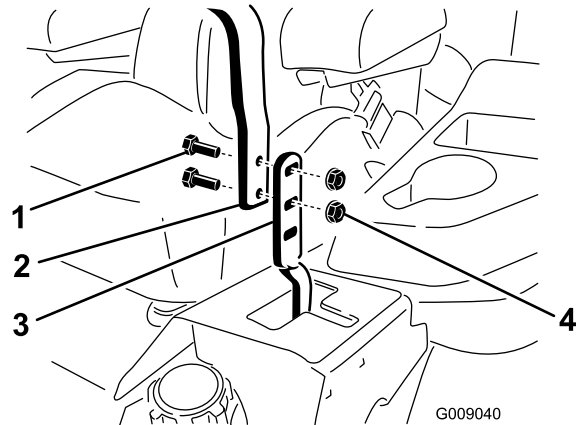

Figure 85
3. Loosen the bolts and flange nuts installed in the levers (Figure 85).
4. Align the levers in the front-to-rear position by bringing the levers together to the NEUTRAL position, slide them until they are aligned, and tighten the bolts (Figure 85).